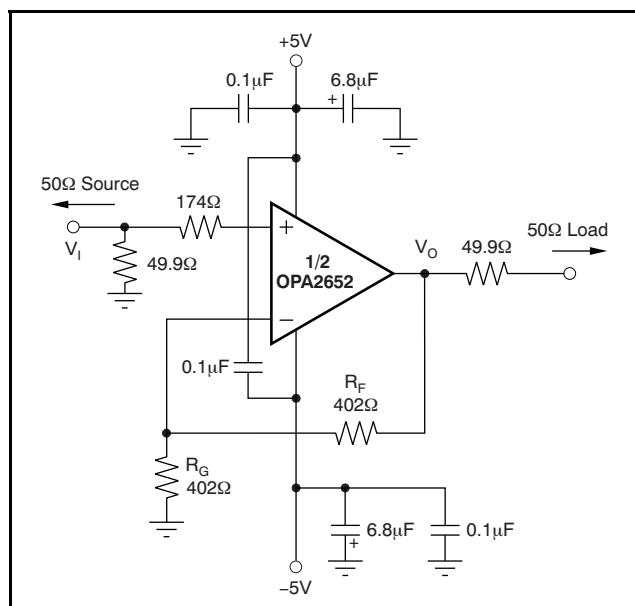
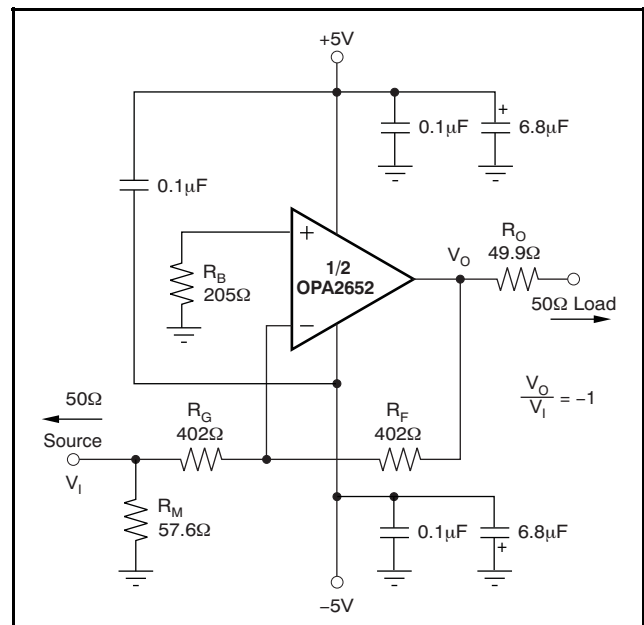

Figure 28. DC-Coupled, G = +2, Bipolar Supply, Specification and Test Circuit
Figure 29. DC-Coupled, G = -1, Bipolar Supply, Specification and Test Circuit
At $T_A = +25^\circ\text{C}$, $G = +2$, $R_F = 402\Omega$, and $R_L = 100\Omega$, unless otherwise noted. See Figure 28 and Figure 29 for AC performance only.
At $T_A = +25^\circ C$, $G = +2$, $R_F = 402\Omega$, and $R_L = 100\Omega$, unless otherwise noted. See Figure 28 and Figure 29.
Figure 28 shows the DC-coupled, gain of +2, dual power-supply circuit configuration used as the basis of the $\pm 5\text{V}$ specifications and typical characteristics. This configuration is for one channel. The other channel is connected similarly. For test purposes, the input impedance is set to 50Ω with a resistor to ground and the output impedance is set to 50Ω with a series output resistor.
Voltage swings reported in the specifications are taken directly at the input and output pins, while output powers (dBm) are at the matched 50Ω load. For the circuit of Figure 28, the total effective load will be $100\Omega \parallel 804\Omega$. Two optional components are included in Figure 28.
Figure 29 shows the DC-coupled, gain of -1 , bipolar supply circuit configuration that is the basis of the specifications and typical characteristics at $G = -1$. The input impedance matching resistor (57.6Ω) used for testing gives a 50Ω input load. A resistor (205Ω) connects the noninverting input to ground. This configuration provides the DC source resistance matching to cancel outputs errors arising from input bias current.
A good rule of thumb is to target the parallel combination of R_F and R_G (see Figure 28) to be less than approximately 300Ω. The combined impedance $R_F \parallel R_G$ interacts with the inverting input capacitance, placing an additional pole in the feedback network, and thus a zero in the forward response. Assuming a 2pF total parasitic on the inverting node, holding $R_F \parallel R_G < 300\Omega$ keeps this pole above 250MHz. By itself, this constraint implies that the feedback resistor R_F can increase to several kΩ at high gains. This increase is acceptable as long as the pole formed by R_F and any parasitic capacitance appearing in parallel is kept out of the frequency range of interest.
Voltage feedback op amps exhibit decreasing closed-loop bandwidth as the signal gain is increased. In theory, this relationship is described by the Gain Bandwidth Product (GBP) shown in the specifications. Ideally, dividing GBP by the noninverting signal gain (also called the Noise Gain, or NG) predicts the closed-loop bandwidth. In practice, this prediction only holds true when the phase margin approaches 90°, as it does in high gain configurations. At low gains (increased feedback factor), most amplifiers exhibit a wider bandwidth and lower phase margin. The OPA2652 is compensated to give a flat response in a noninverting gain of 1 (see Figure 28). This configuration results in a typical gain of +1 bandwidth of 700MHz, far exceeding that predicted by dividing the 200MHz GBP by $NG = 1$. Increasing the gain
Because the OPA2652 is a general-purpose, wideband voltage feedback op amp, all of the familiar op amp application circuits are available to the designer. Inverting operation is one of the more common requirements and offers several performance benefits. Figure 29 shows a typical inverting configuration.
In the inverting configuration, three key design considerations must be noted. First, the gain resistor (R_G) becomes part of the signal channel input impedance. If input impedance matching is desired (which is beneficial whenever the signal is coupled through a cable, twisted pair, long PCB trace or other transmission line conductor), R_G may be set equal to the required termination value and R_F adjusted to give the desired gain. This approach is the simplest, and results in optimum bandwidth and noise performance. However, at low inverting gains, the resulting feedback resistor value can present a significant load to the amplifier output. For an inverting gain of -1 , setting R_G to 50Ω for input matching eliminates the need for R_M but requires a 50Ω feedback resistor. This configuration has the interesting advantage that the noise gain becomes equal to 2 for a 50Ω source impedance—the same as the noninverting circuits considered above. However, the amplifier output now sees the 50Ω feedback resistor in parallel with the external load. In general, the feedback resistor should be limited to the 200Ω to 1.5kΩ range. In this case, it is preferable to increase both the R_F and R_G values as shown in Figure 29, and then achieve the input matching impedance with a third resistor (R_M) to ground. The total input impedance becomes the parallel combination of R_G and R_M .
The second major consideration, touched on in the previous paragraph, is that the signal source impedance becomes part of the noise gain equation and influences the bandwidth. For the example in Figure 29, the R_M value combines in parallel with the external 50Ω source impedance, yielding an effective driving impedance of $50\Omega \parallel 57.6\Omega = 26.8\Omega$. This impedance is added in series with R_G for calculating the noise gain (NG). The resulting NG is 1.94 for Figure 29 (an ideal source would cause $NG = 2.00$).
error, as a result of the input bias currents, is reduced to (Input Offset Current) • R_F . If the 50 Ω source impedance is DC-coupled in Figure 29, the total resistance to ground on the inverting input will be 429 Ω . Combining this in parallel with the feedback resistor gives 208 Ω , which is close to the $R_B = 205\Omega$ used in Figure 29. To reduce the additional high-frequency noise introduced by this resistor, it is sometimes bypassed with a capacitor. As long as $R_B < 300\Omega$, the capacitor is not required since its total noise contribution is much less than that of the op amp input noise voltage.
The OPA2652 provides good distortion performance into a 100 Ω load on $\pm 5V$ supplies. Increasing the load impedance improves distortion directly. Remember that the total load includes the feedback network; in the noninverting configuration (Figure 28), this is sum of $R_F + R_G$, while in the inverting configuration, it is only R_F . Also, providing an additional supply decoupling capacitor (0.1 μF) between the supply pins (for bipolar operation) improves the 2nd-order distortion slightly (3dB to 6dB).
Evaluating these two equations for the OPA2652 circuit and component values shown in Figure 28 gives a total output spot noise voltage of $17\text{nV}/\sqrt{\text{Hz}}$ and a total equivalent input spot noise voltage of $8.4\text{nV}/\sqrt{\text{Hz}}$. This noise includes the noise added by the bias current cancellation resistor (205Ω) on the noninverting input. This total input-referred spot noise voltage is only slightly higher than the $8\text{nV}/\sqrt{\text{Hz}}$ specification for the op amp voltage noise alone. This result will be the case as long as the impedances appearing at each op amp input are limited to the previously recommend maximum value of 300Ω . Keeping both $(R_F \parallel R_G)$ and the noninverting input source impedance less than 300Ω satisfies both noise and frequency response flatness considerations. Since the resistor-induced noise is relatively negligible, additional capacitive decoupling across the bias current cancellation resistor (R_B) for the inverting op amp configuration of Figure 29 is not required.
The balanced input stage of a wideband voltage feedback op amp allows good output DC accuracy in a wide variety of applications. Although the high-speed input stage does require relatively high input bias current (typically $4\mu\text{A}$ out of each input terminal), the close matching between them may be used to significantly reduce the output DC error caused by this current. This reduction is done by matching the DC source resistances appearing at the two inputs. This matching reduces the output DC error resulting from the input bias currents to the offset current times the feedback resistor. Evaluating the configuration of Figure 28, using worst-case $+25^\circ\text{C}$ input offset voltage and current specifications, gives a worst-case output offset voltage equal to:
As an example, compute the maximum T_J using an OPA2652E (SOT23-8 package) in the circuit of Figure 28 operating at the maximum specified ambient temperature of +85°C and with both outputs driving 2.5V_{DC} into a grounded 100Ω load.